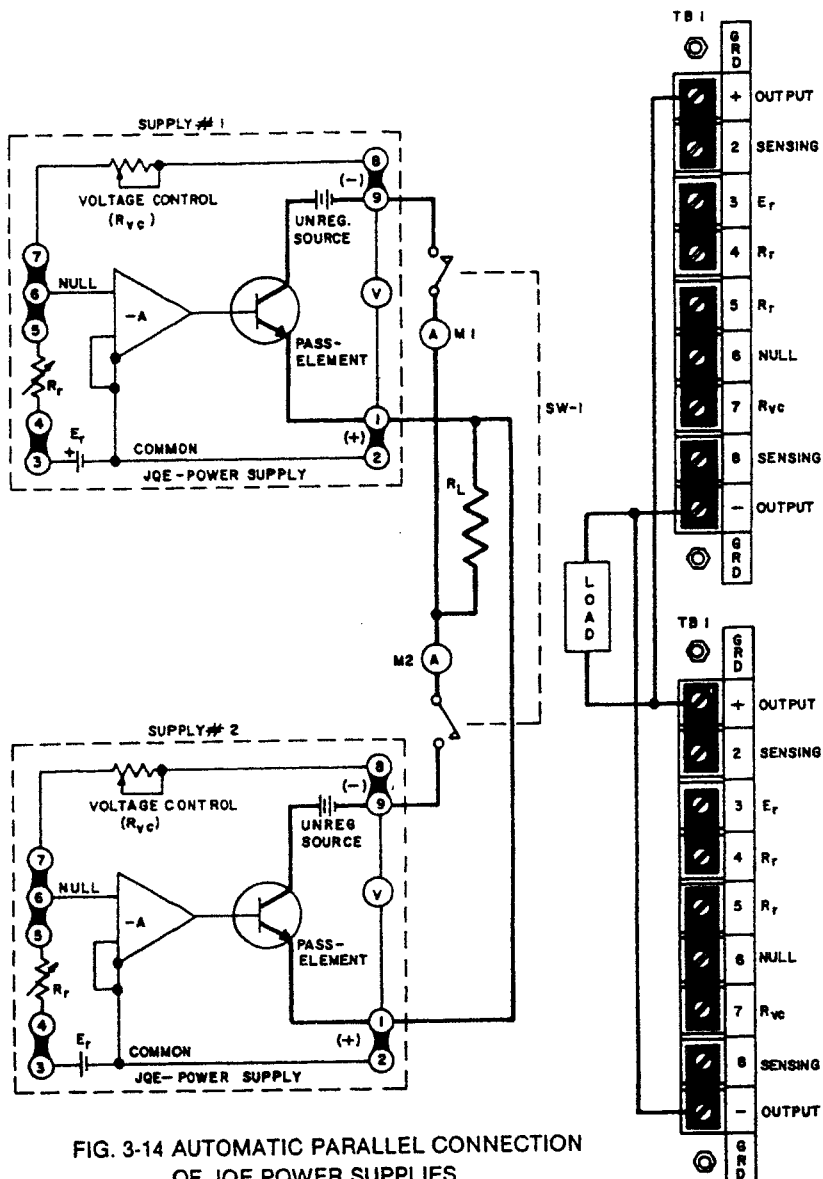

FIG. 3-14 AUTOMATIC PARALLEL CONNECTION OF JQE POWER SUPPLIES
### 3-43 PROCEDURE (Refer to FIG. 3-14)
- a) Connect units as shown in FIG. 3-14. Open SW-1 and connect to line.